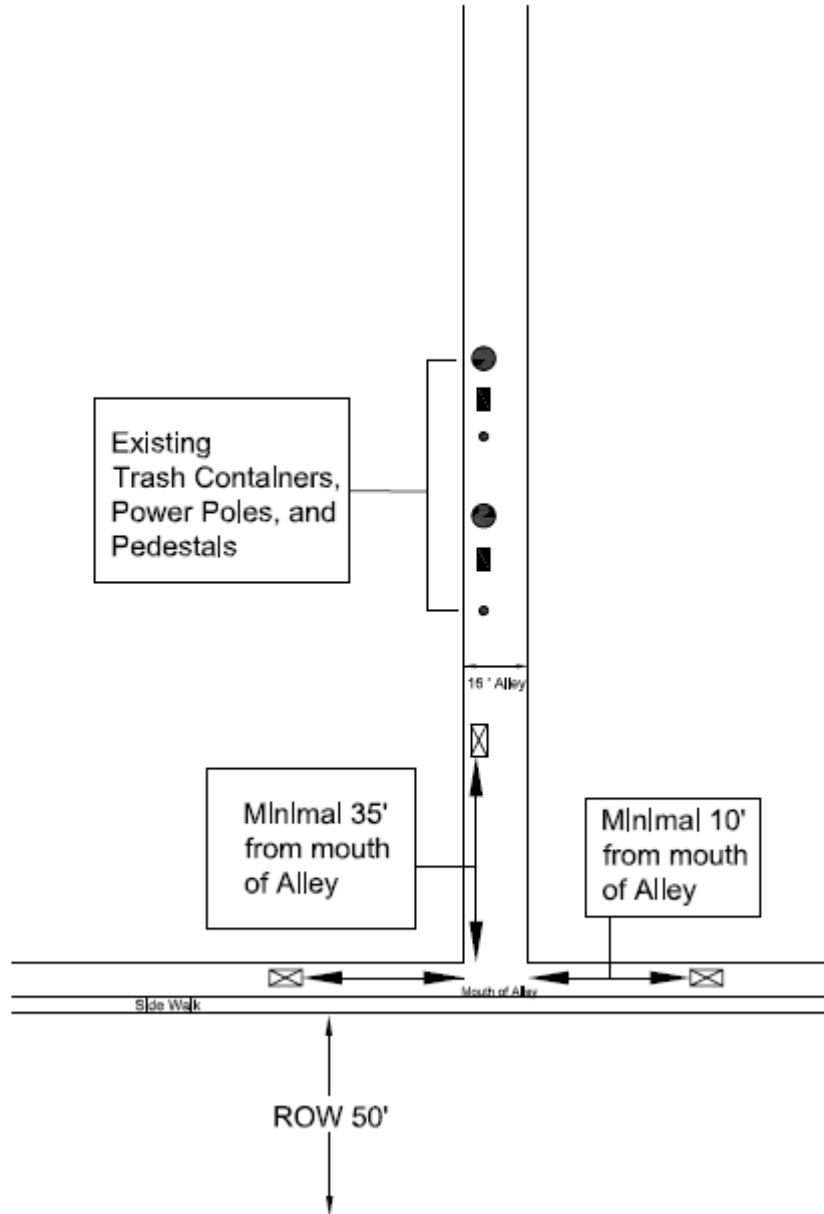

FIGURE 3.
1. The structure has to be far enough in from the end of the alley to allow the vehicle to enter the alley without needing to maneuver around it. The structure must be a minimum of 35 feet from mouth of alley. (Figure 3.)